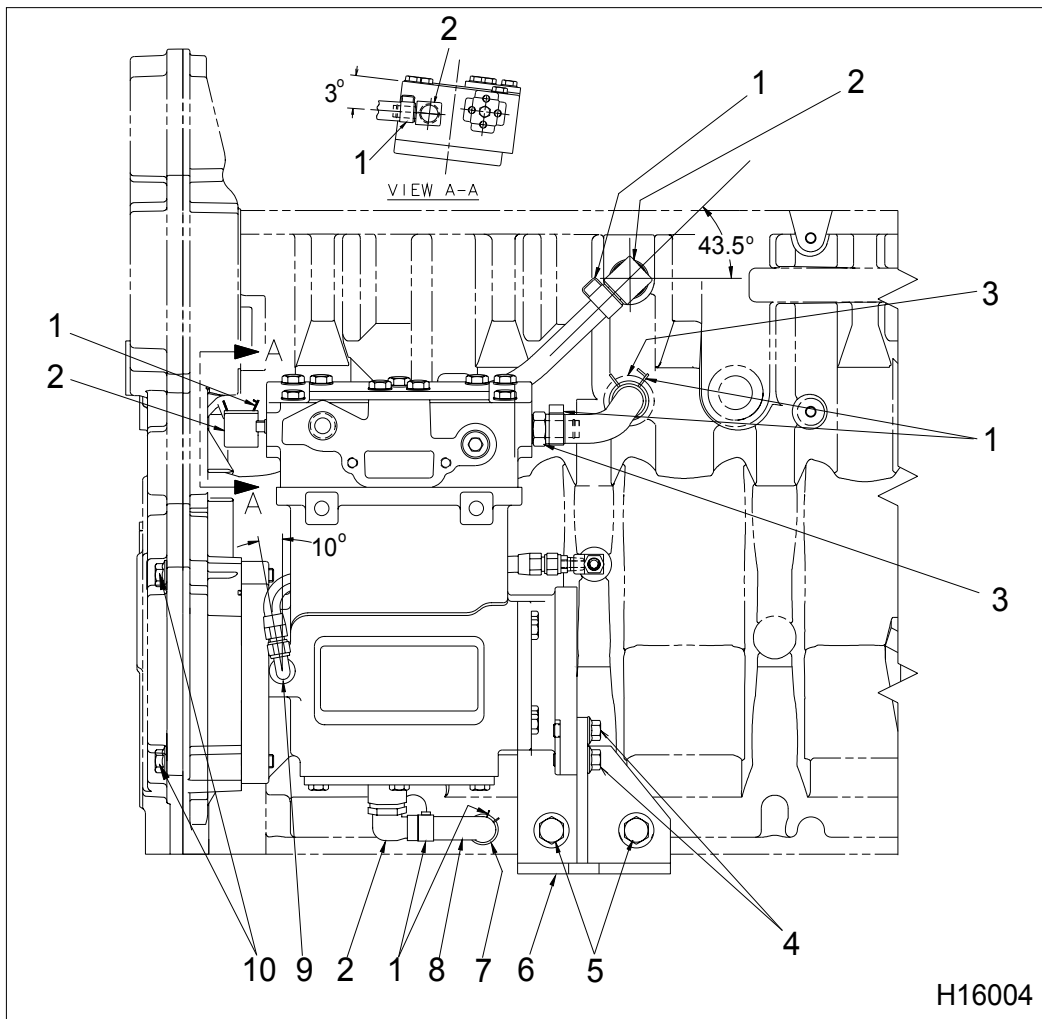

Figure 652 Air compressor mounting and connections
11. Remove remaining two bracket bolts attached to air compressor (M10 x 25) (Figure 652).
1. On work bench, loosely install air compressor support bracket assembly (Figure 652) to the air compressor with two bolts (M10 x 25). Thread finger tight but do not tighten.
NOTE: If these fittings were removed from the crankcase or air compressor for any reason, they will require standard torque values (General Torque Guidelines, page 445) and need to be oriented to the correct angle (Figure 652) upon installation.
7. Remove caps and install oil supply hose to elbow assembly (M10) (Figure 652). Tighten oil supply line fitting.